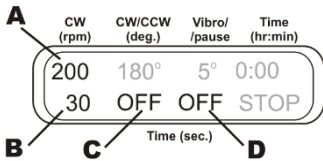

Figure 2.
- 6.9.1 **Rotational motion.** Set the speed (40-1000 rpm, fig. 2/A) and time (1-250 s, fig. 2/B) of rotational motion. Turn off reciprocal and vibro motions by setting their motion times to zero (indications OFF, fig. 2/C and 2/D).